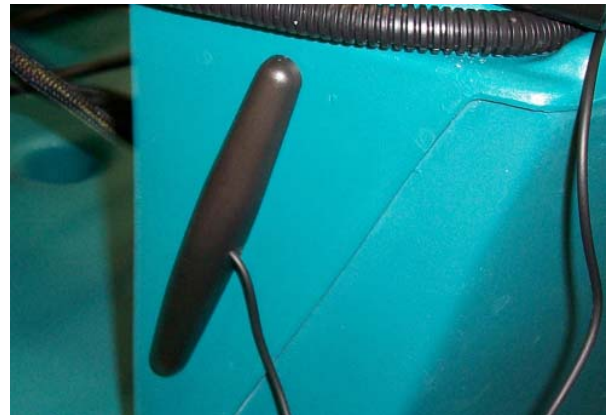

**FIG. 11**
12. Lift the recovery tank assembly and position the telemetry harness and antenna cable between the solution tank and the left side panel as shown. Make sure the telemetry harness and antenna cable cannot be pinched when the left side rail is reinstalled (FIG. 11). Reinstall hardware to side rail.